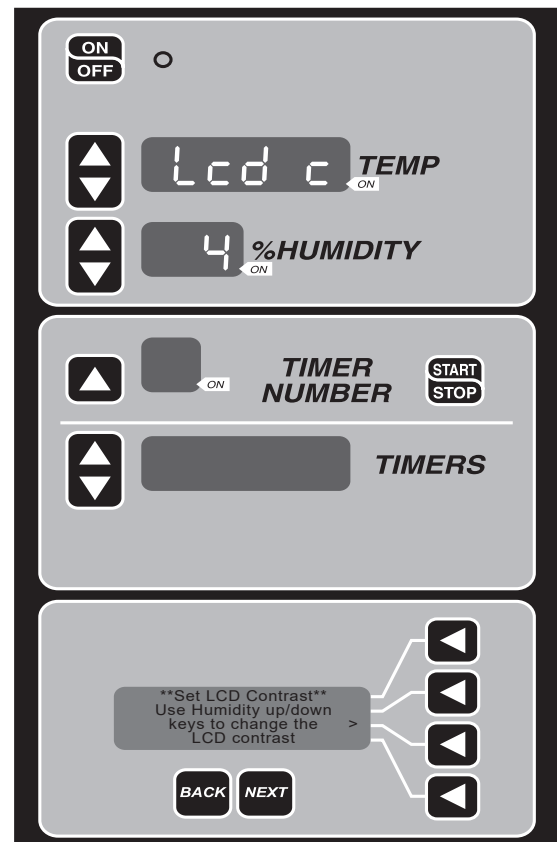

Fig. 17
5. While in the normal bootloader mode, hold down the HUMIDITY DOWN button and then press the TEMP UP button. You will see the LED display change and the LCD will display the instructions (Fig. 17). The system is now in LCD contrast setting mode.